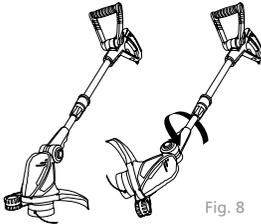

Fig. 8
- Turn the shaft clamping lock and turn the handle 180°, secure the motor position by turning the shaft lock again (Fig. 8).